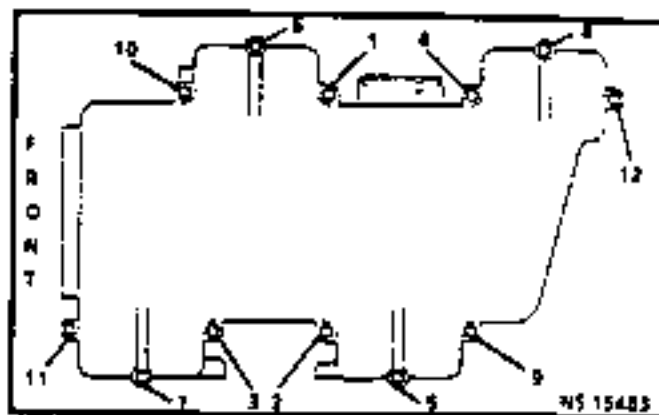

Figure 21 - Bolt Tightening Sequence
- Bolts to 14.0 N·m (124 lb in) in sequence as shown in Figure 21.